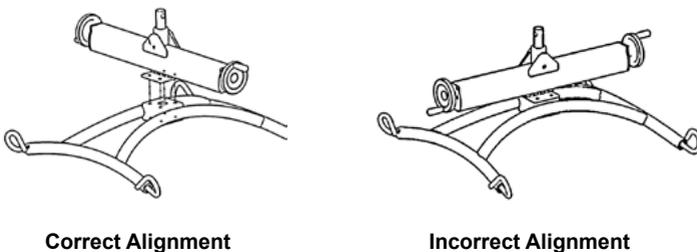

Fig. 7
2. Align the stretcher adjustment with the attachment cradle. Orientate the stretcher adjustment so that it is parallel to the adjustment cradle hooks (See Fig. 7).